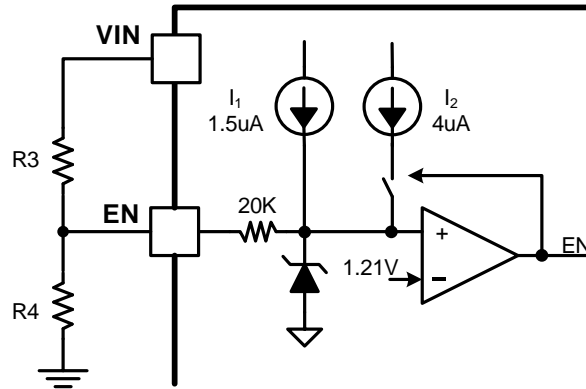

Figure 10. Adjustable VIN UVLO
An internal 1.5uA pull up current source connected from internal LDO power rail to EN pin guarantees that floating EN pin automatically enables the device. For the application requiring higher VIN UVLO voltage than the default setup, there is a 4uA hysteresis pull up current source on EN pin which configures the VIN UVLO voltage with an off-chip resistor divider R3 and R4, shown in Figure 10. The resistor divider R3 and R4 are calculated by equation (1) and (2).